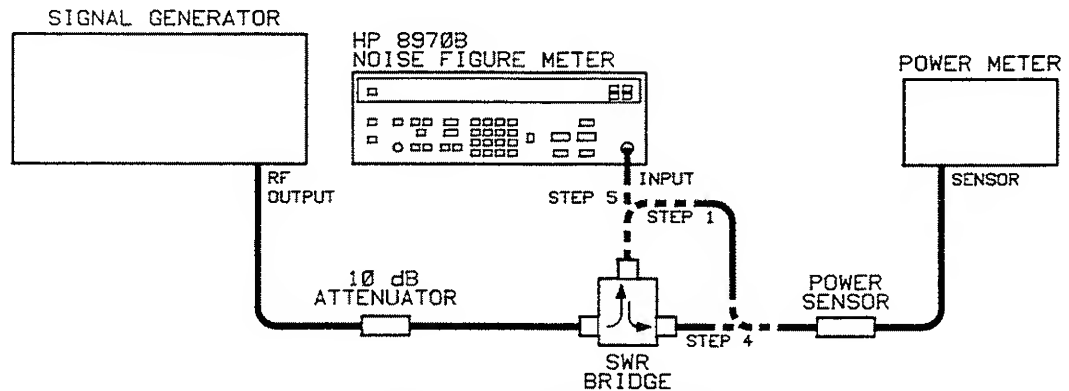

Figure 4-1. Input SWR Test Setup
1. Connect equipment as shown in Figure 4-1. Note that the power sensor is connected to the test port of the SWR bridge.